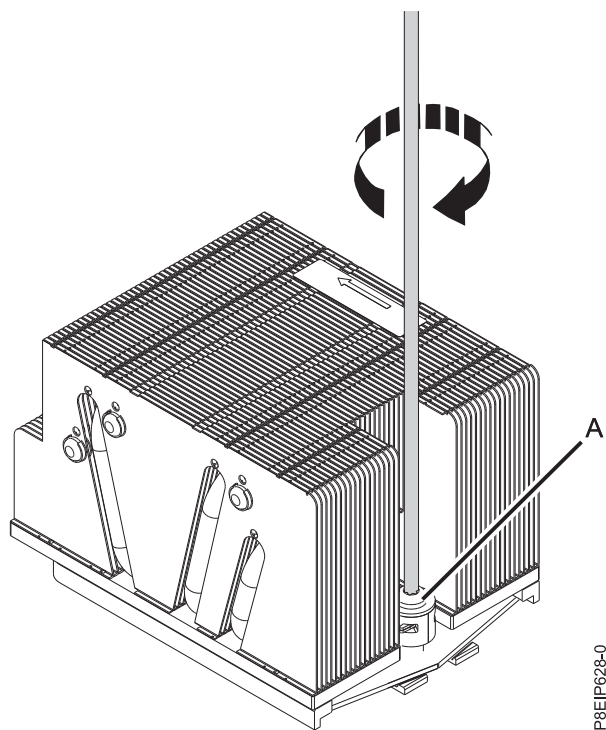

Figure 69. Tightening the load arm screw
11. Tighten the load arm **(A)** screw with a #3 Phillips screw driver, as shown in Figure 69 on page 56.